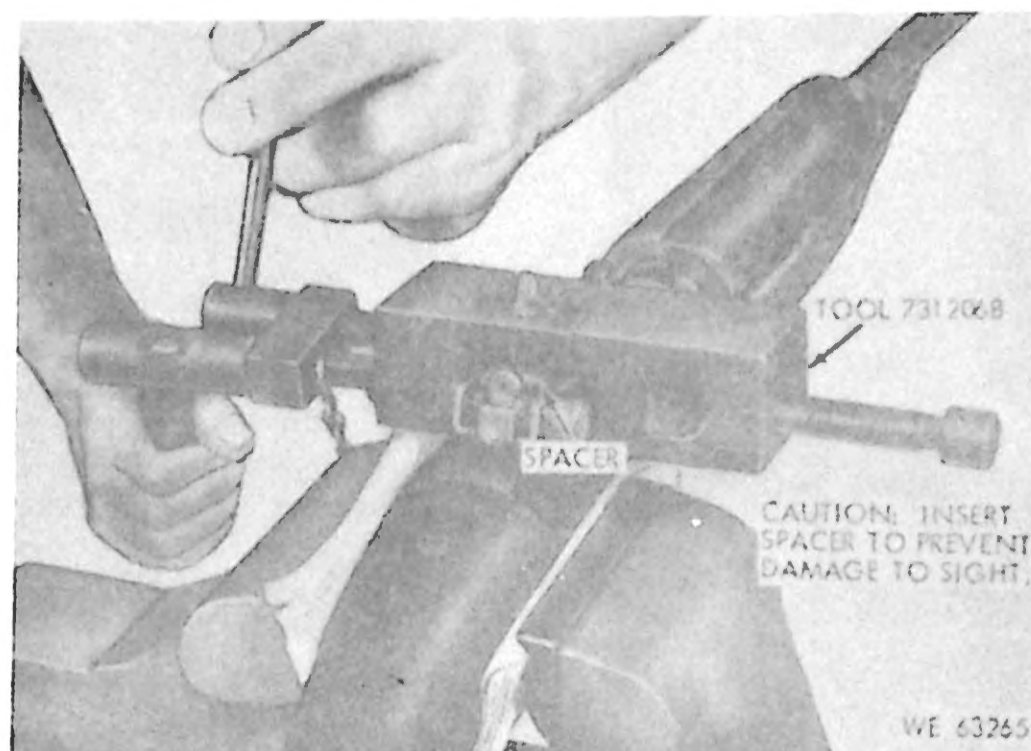

Figure 3-4. Removing rear sight, using tool 7312068.
- (5) *Rear sight.* Refer to figures 3-4 and 3-5.